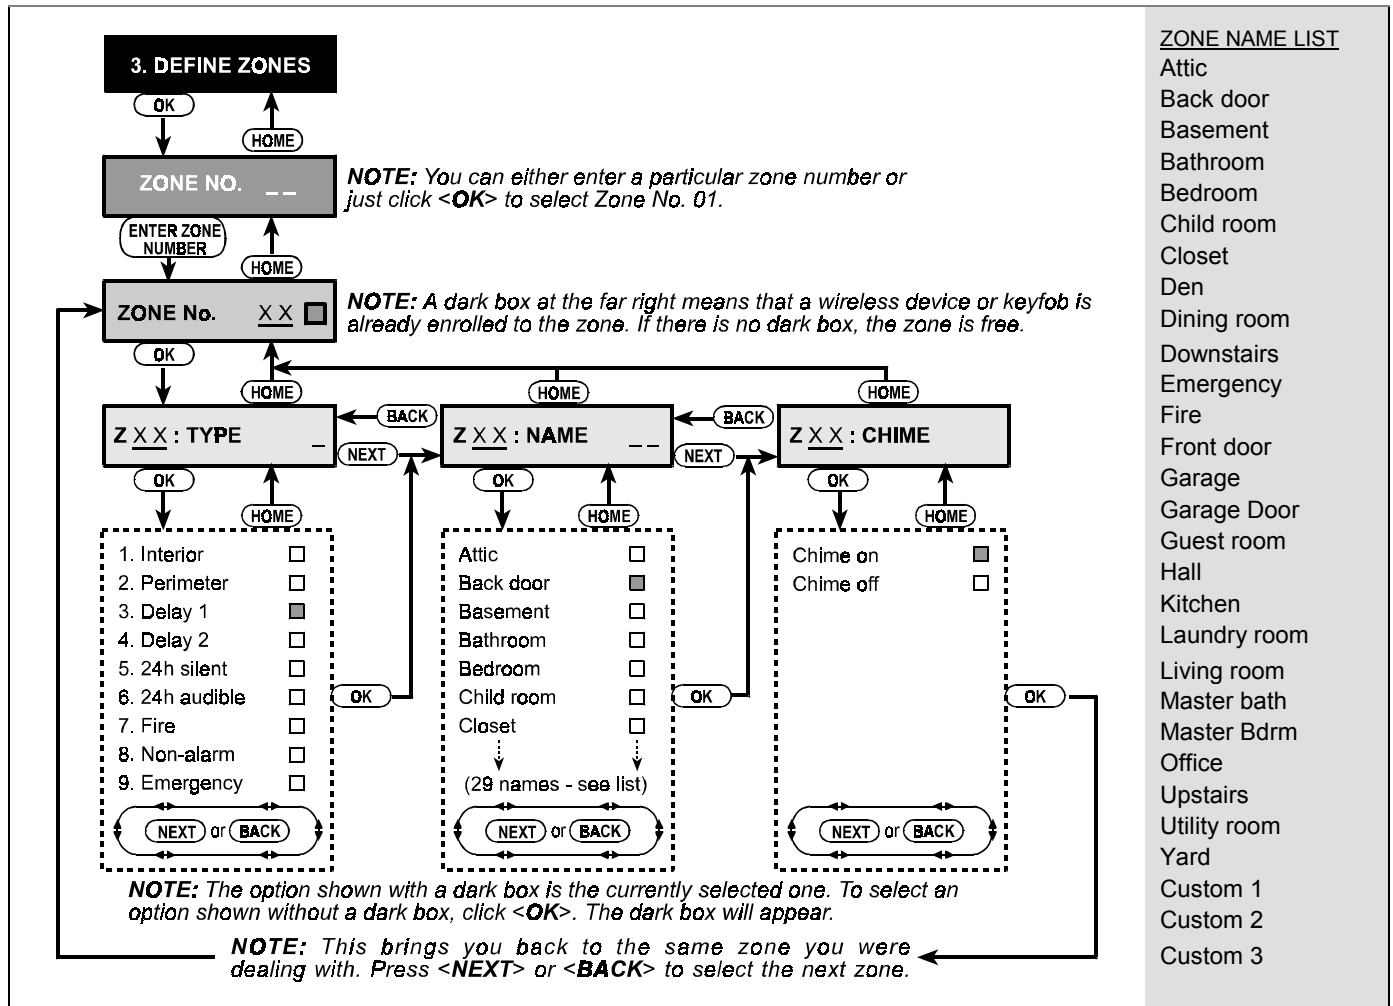

Figure 3. DEFINE ZONES Flow Chart
Should you wish to get an overall view of the entire zone definition process, refer to Figure 3. You may even use the chart as your only guide along the programming process, instead of going through the written step-by-step procedure.
D. You can now enter the number of a specific zone definition (see list in Figure 3) and click <OK>. If, for example, you enter <5>=><OK>, the display will read:
G. At this point, enter the serial number of the zone name you wish to attach to zone No. 7 from the list of 29 available names (see list in Figure 3).